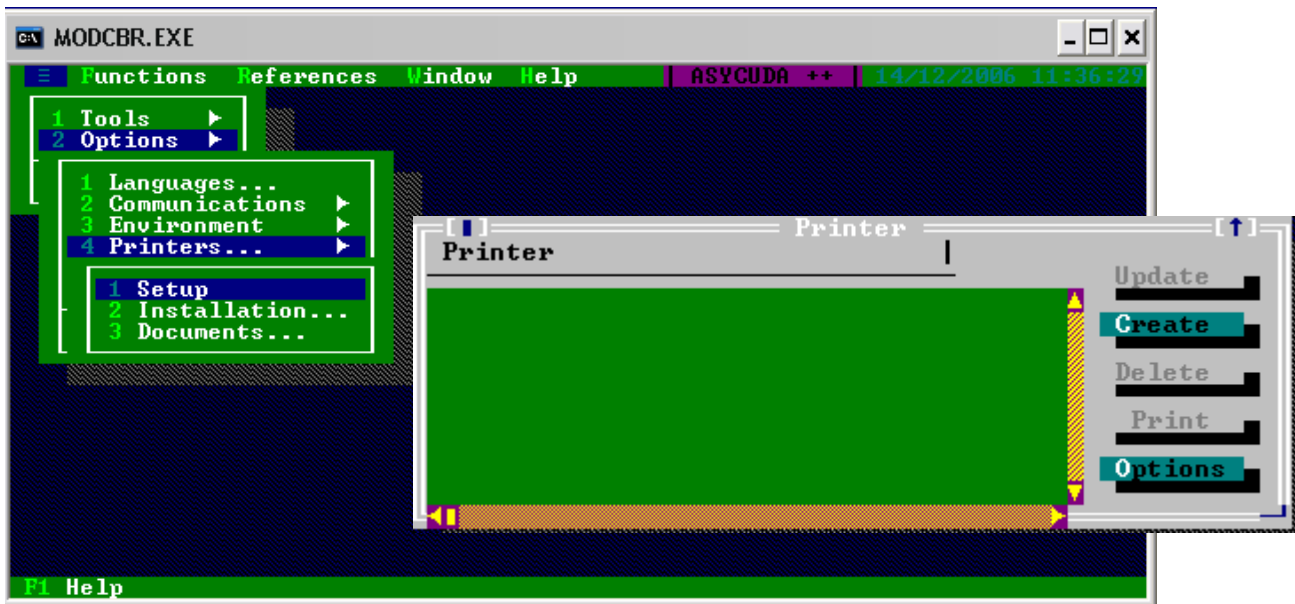
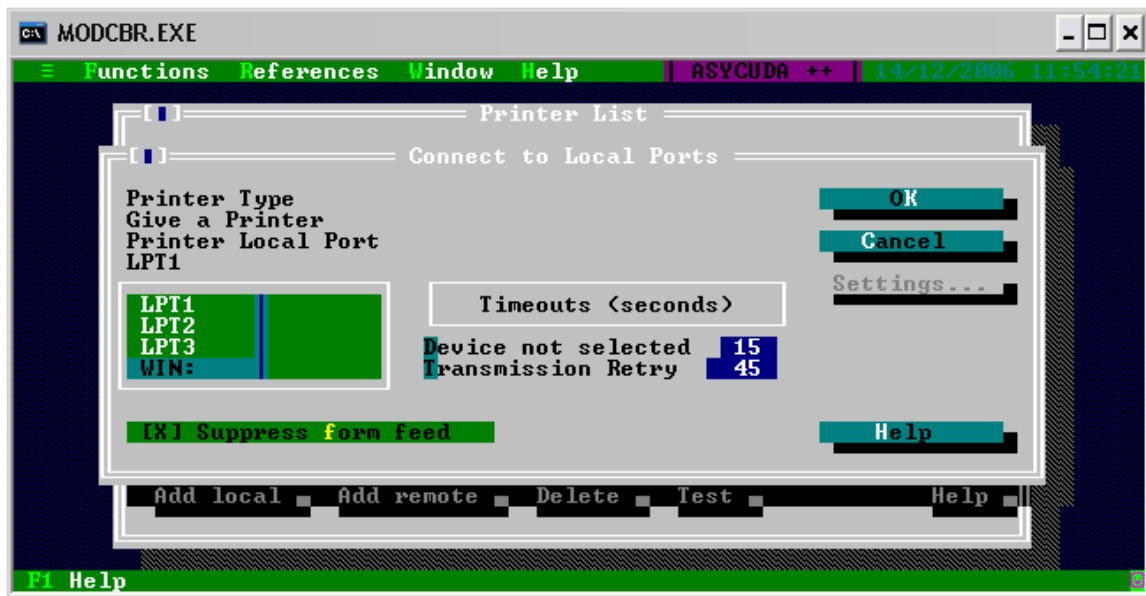

Fig 6. Printer set –up in ASYCUDA++
Fig 8. Selecting to re –route print jobs to Window from Asycuda ++
You then need to install the printer that you have set-up using the same option show on fig 6 but this you click installation.
1. You need to log into any Asycuda ++ module and follow the fig 6 – fig 8.